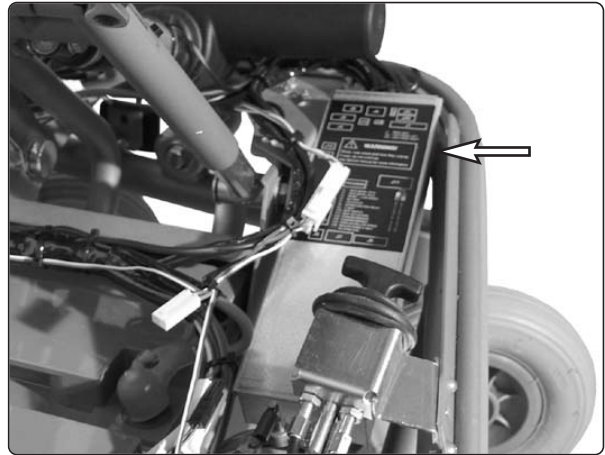

Fig. 45. The box containing the SLS driver stage and the actuator control board is mounted on the left side of the chassis.
5. Pull the lid off the box that contains the SLS driver stage and actuator control board, see fig. 45.